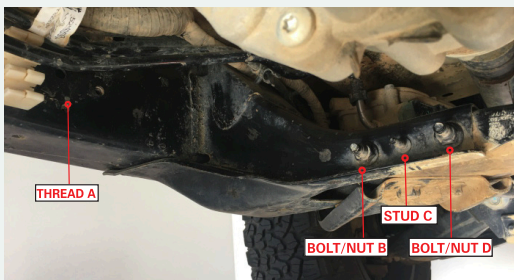

FIGURE 2C
- 2 Remove nuts B and D shown in FIG. 2C. Make sure to keep these nuts aside for use later. Refer to FIG. 2D on removal suggestion, using open spanner on one side and ratchet on the other. (Note make sure to have rags ready as fuel in the fuel line will leak out.)